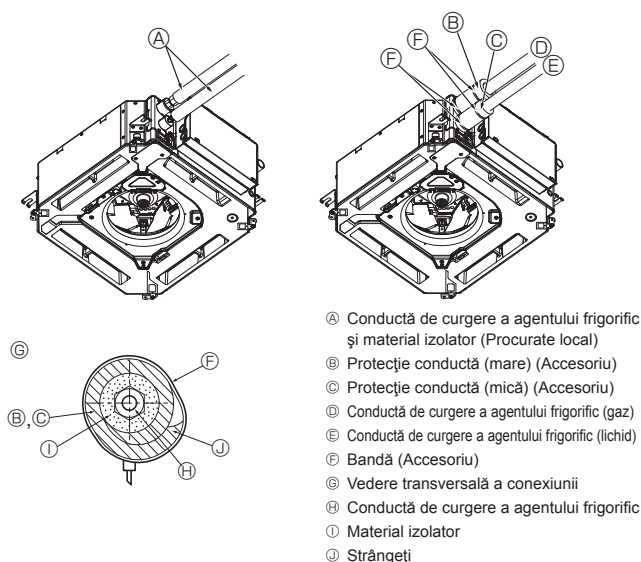

Fig. 5-8
5.5. Racordarea conductelor (Fig. 5-8)